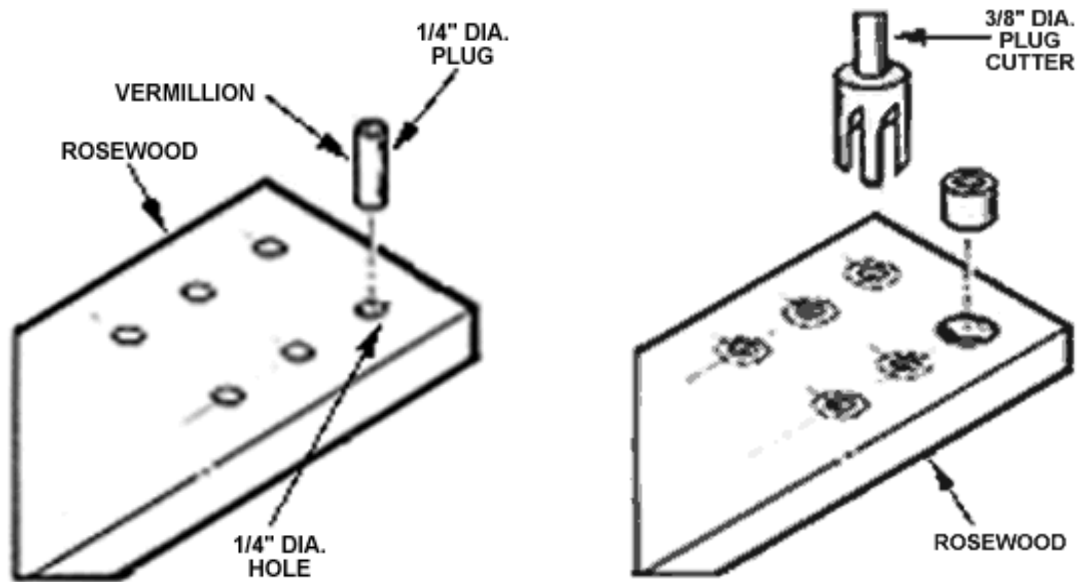

Figure 1. Plug Cutting Detail
7. Choose any 1/4" plywood or even solid stock to make the back (C).
9. Rabbet the rear edges of the top (A) and sides (B) to accept the plywood back (C). **NOTE: When assembled, the front and back edges of the sides and top must be perfectly flush to accept the facing strips that will be glued over them. Therefore, you don't want any ridges here.**
10. Cut a 1/8" by 1/4" dado in the back (C) to accept the bottom (D) as shown in the schematic.
11. Cut the dadoes in the sides (B) and drawer guides (E).
12. Take care not to chip out the remaining 1/8", which is fragile until the bottom is in place, and then cut the dadoes for the bottom (D).
16. Use a 3/8 x 1/4" plug cutter to make the plugs (see **Figure 1** for plug cutting detail), **OR** use pre-manufactured dowels if you are using a standard hardwood.
18. Make 1/4" plugs of vermilion and pop them out (see Figure 1).